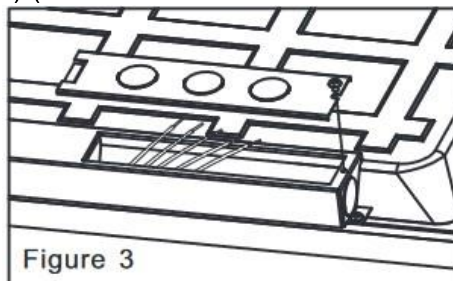

Figure 3
Step 3. Open the driver box. (Figure 3) (Size of conduit: 22.2mm or .87 inches dia)